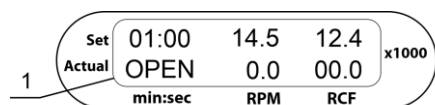
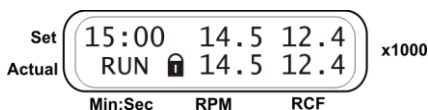

Figure 5. Control panel
Figure 7. Long spin
5.3. The centrifuge switches on, rotor is detected automatically, and the following readouts show on the display (fig 5/1):
5.4. Press the **Open** key (fig. 5/1) and open the outer lid by lifting it upwards by hand. The display shows ■ (see figure 5). The lid can be opened only when the rotor is stopped.
5.8.1. Press and hold the **Run Stop** key (fig. 5/3). After 3 seconds, centrifugation starts. Display changes:
5.8.2. Release the **Run Stop** key to stop. Rotor spins down and display shows blinking ■ when the rotor is winding down, steady ■ when the rotor stops, accompanied by a short sound signal. Unlock the lid by pressing the **Open** key (fig. 5/5).
5.9.1. Use the ▲ and ▼ **SELECT** keys (fig. 5/2) to choose the parameter to edit. The selected parameter is blinking.
5.9.2. Use the - and + keys (fig. 5/4) to change the selected parameter:
5.9.3. Press the **Run Stop** key (fig. 5/3) to start centrifugation. Blinking ► indication and current speed is displayed in the lower line (fig. 7). The timer in the upper line starts countdown after the set speed is achieved (steady ► indication).
5.9.4. Centrifugation stops automatically after the set time elapses. While braking, display shows blinking ■. A sound signal is emitted after full stop of the rotor. Press the **Run Stop** key to stop the signal. Unlock the lid by pressing the **Open** key (fig. 5/5).
8.2.3. For rotor cleaning: if the centrifuge is switched on, press the **Open** key (fig. 5/1) and open the outer lid lifting it upwards with a hand. If the centrifuge is disconnected from the mains, find the emergency opening slot on the right side of the unit. Insert the pin for unblocking the lid (screwed in rear panel of the unit) into the emergency opening slot and press until the lid opens. Remove the rotor lid by lifting the lid holder up. Hold the rotor with one hand and turn a fixation nut counter-clockwise to release the rotor with the help of wrench included in standard set. Release the rotor and clean it. After cleaning install the rotor, secure it carefully turning the rotor fixation nut tightly. Close the rotor lid and the covering lid as described in **5.7**. Unpower the unit, if necessary.